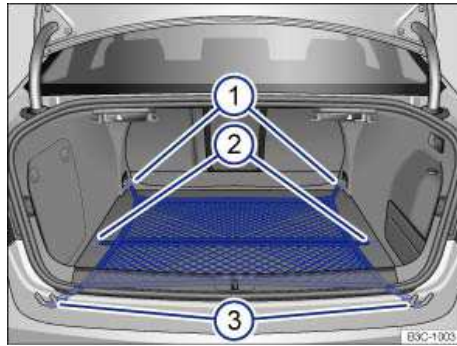

Fig. 101 In the luggage compartment: Luggage net hung horizontally.
- First, secure the luggage net hooks ⇒ fig. 101 \(1\) to the tie-downs on the rear seat backrest \(1\) ⇒ **⚠**. The luggage net zipper must face upwards.